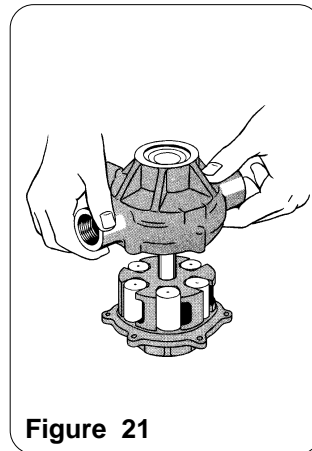
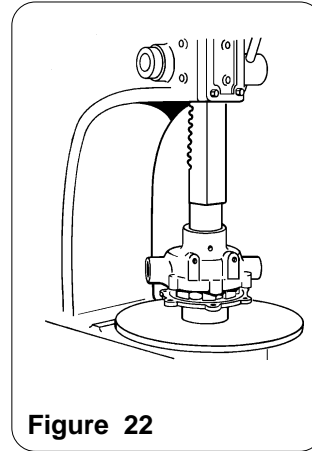

Figure 21
Figure 22
2. Remove the assembled portion from the arbor press and invert it on the press table with the Bearing Support Tool under the Bearing. Then place Rollers in the Roller Slots as close to center of Rotor as possible. Place the Pump Body over Rotor and Shaft and carefully ease the end of the Shaft past the lips of the Seal in Pump Body (Figure 21). Center Bearing Support Tool with counter bored end down on inner race of Ball Bearing, and slowly press the Pump Body down to fit the End Plate (Figure 22).